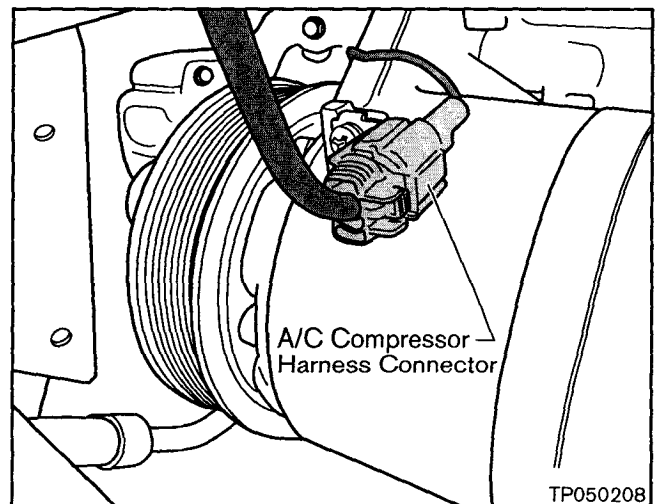

Figure 9
7. Disconnect the A/C Compressor Harness Connector (see Figure 9).